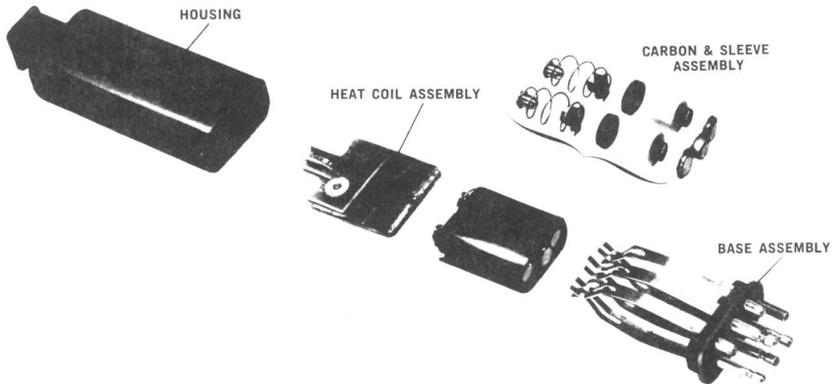
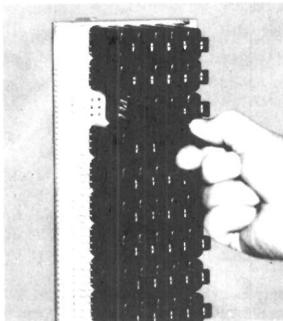

FIGURE 2. 1104 Protector Unit
FIGURE 3. Installing Protector Units Into Connector Block
- 2.06 The Reliable Electric No. 1104 Protector Unit (Figure 2) with four carbon blocks and heat coils is used on circuits requiring both voltage and sneak current protection. When the six metallic pins and one plastic polarizing pin of this protector are inserted in the connector unit (Figure 3), they provide the following contact for one cable pair: